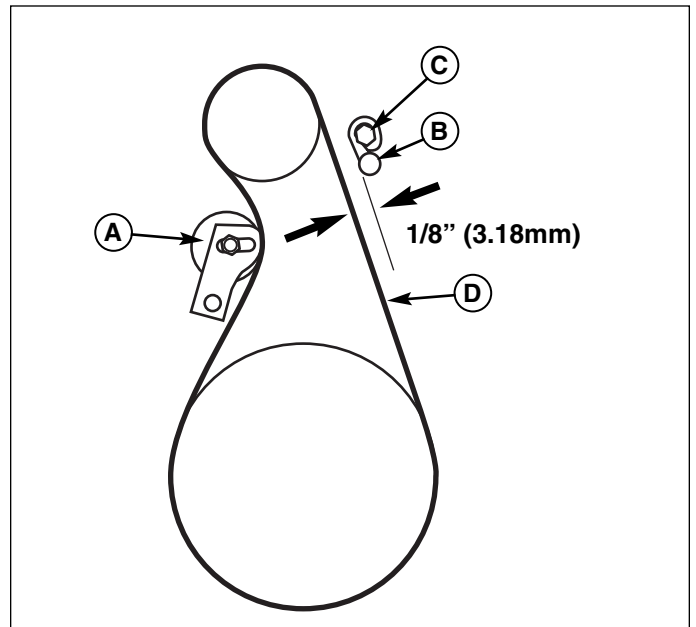

Figure 24. Belt Guide
3. Measure the distance between the belt guide (B, Figure 24) and the belt (D). The distance should be 1/8 inch (3.18mm).
4. If adjustment is necessary, loosen belt guide cap-screw (C). Move belt guide (B) to correct position. Tighten capscrew (C).